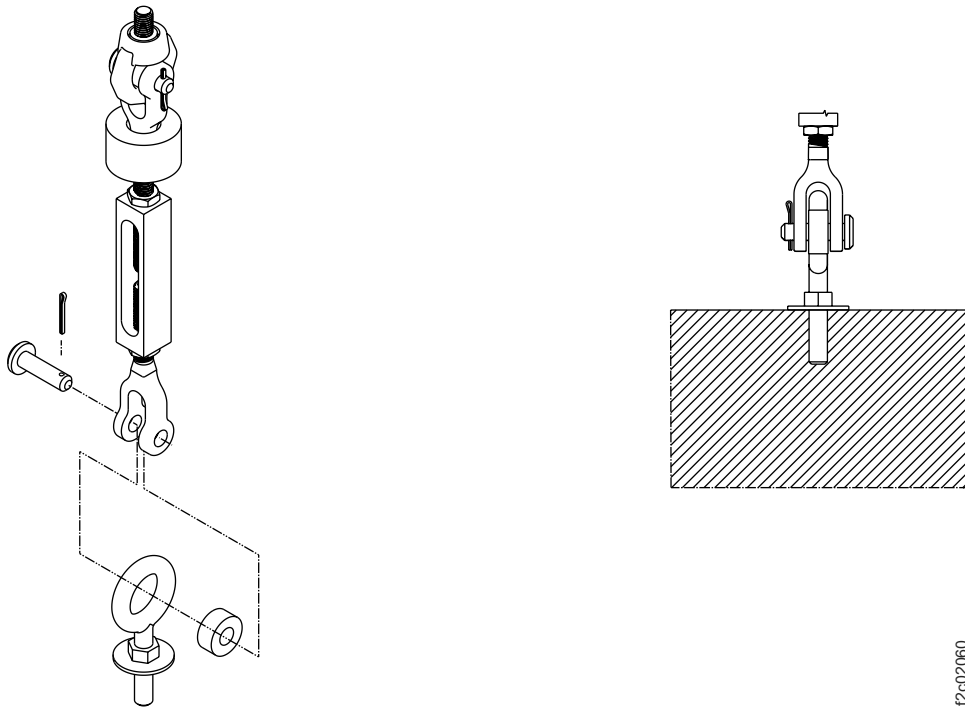

Figure 21. Eyebolt and spacer of the Earthquake Resistance Kit.
- The dimensions of the eyebolt must allow the turnbuckle lower jaw of the kit to fit over the eyebolt and allow the spacer of earthquake resistance kit to fit inside the eye. See Figure 21 on page 156.